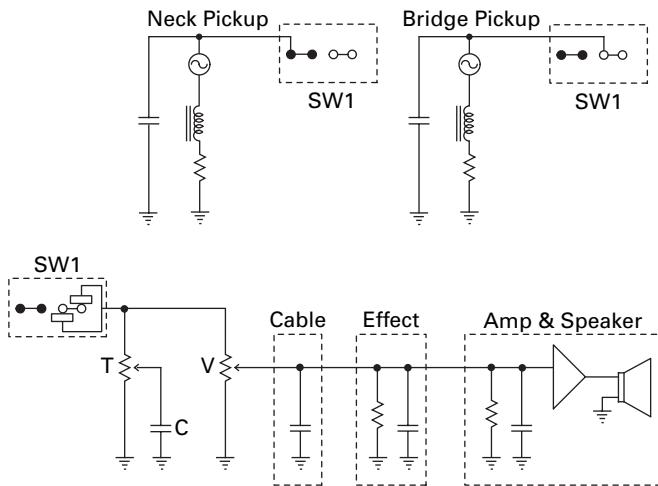

FIGURE 12-8 Simplified schematic of the Telecaster and typical setup
An electric guitar is like a CD or DVD player in a home entertainment system, in that the listening experience depends as much on the speakers, amplifiers, mixers, and other devices as it does on the signal source. As such, in considering the operation of our Tele, we have to assume a typical system configuration—at least one cable, perhaps an effects pedal, and an amplifier with a built-in or external speaker system, as in the schematic shown in Figure 12-8. For our purposes, the Tele can be reduced to a magnetic neck pickup, magnetic bridge pickup, pickup switch (SW1), tone potentiometer (T), volume potentiometer (V), and tone capacitor (C).
Returning to the schematic in Figure 12-8, you'll see that the pickups are not in free space. They can be connected in parallel with each other and with the other systems' components. The capacitance across the inductance of each magnetic pickup includes a contribution from the 0.05 μ F tone capacitor (C) as well as the equivalent capacitance from the cable, effects pedal, and amplifier input circuitry. The typical cable contributes 200 to 500pF, depending on length and manufacturer. Cable resistance is insignificant, given the low signal levels involved. Effects pedals easily contribute another 100 to 200pF to the system. In addition, pedals that don't completely disconnect when powered off contribute as little as 500K Ω of shunt resistance. The typical amp input also contributes about 1M of shunt resistance and 100pF capacitance. All this has an effect on the tone of the system, namely shunting high frequencies to ground.